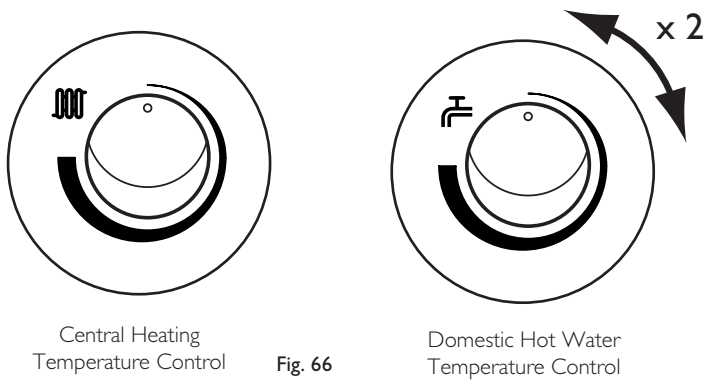

Fig. 66
3. Ensure that the integral timer and any external controls are calling for heat, and the selector switch is in the central heating and hot water position (SF). The current boiler temperature is shown on the display.
5. Turn both temperature control knobs fully anticlockwise, then quickly turn the DHW temperature knob 1/4 clockwise twice and back fully anticlockwise (Fig. 66).